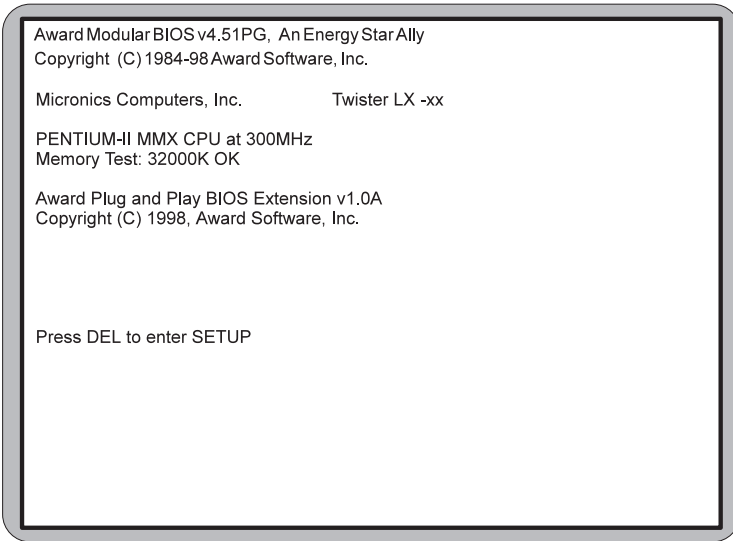

Figure 1.1: Power-Up Screen
| Figure 1.1: Power-Up Screen | 10 |
9. Turn the computer on and press the key when you see the screen shown in Figure 1.1.